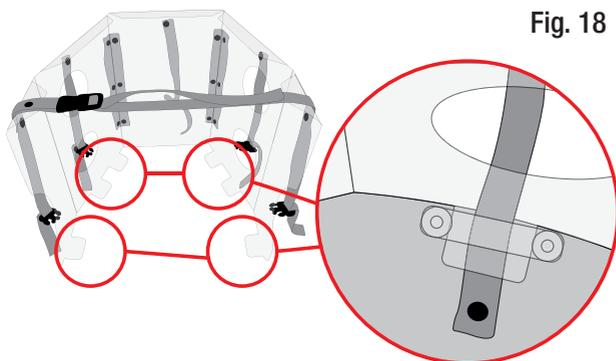

Fig. 18
- insert the fins into the slots provided (fig. 18),